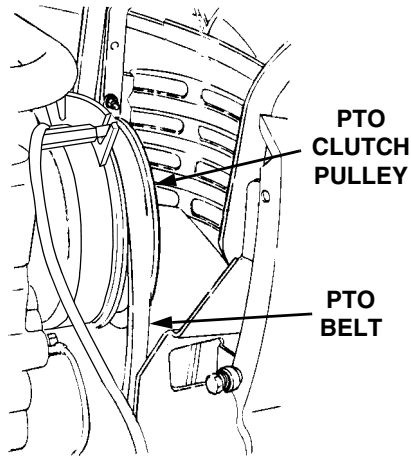

Figure 50
10. Pass the PTO belt upward inside the front of the tractor frame and install the forward end of the belt onto the PTO clutch pulley on the front of the engine. Ensure that the narrow side of the PTO belt engages the groove of the clutch pulley (See Figure 50).